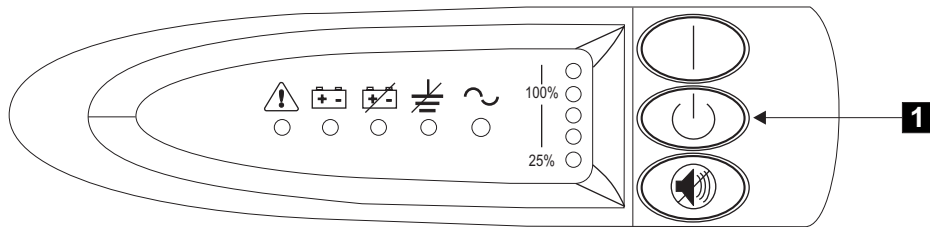

Figure 244. 2145 uninterruptible power supply front panel assembly
1. At the front of the 2145 UPS, press and hold the off button (**1** in Figure 244) for approximately five seconds or until the long beep stops.